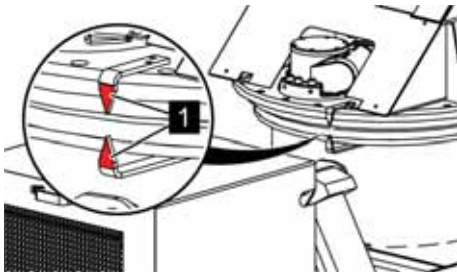

Fig. 70: Red arrows
5. ➤ Swivel the platform in the direction of transport position (☞ Chapter 6.10 'Operating the machine' on page 95) until both red arrows (Fig. 70/1) meet.